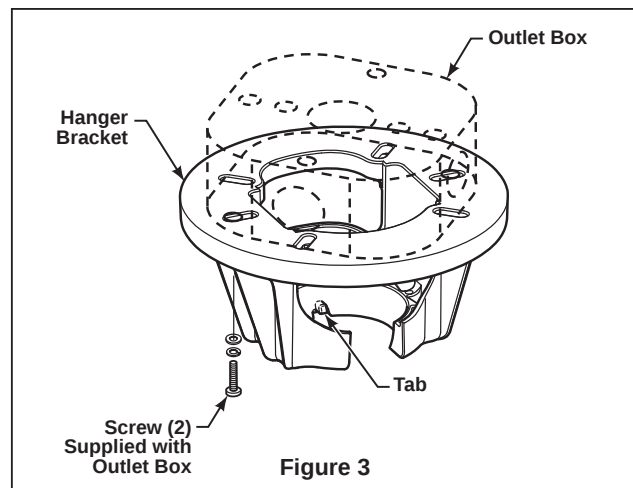

Figure 3
1. Securely attach the hanger bracket to the outlet box using the outlet box screws and washers supplied with the outlet box (Figure 3).
NOTE: Outlet box screws pass through slotted holes of the hanger bracket (Figure 3).